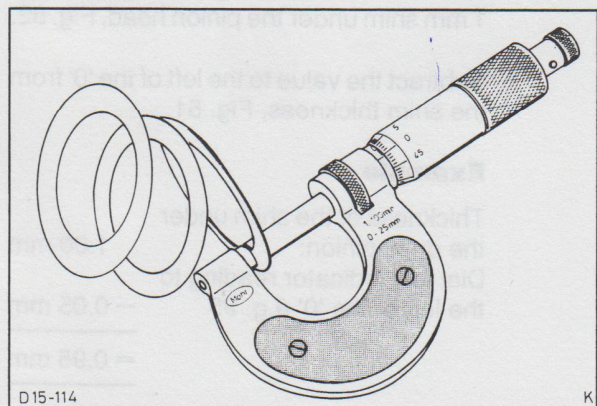

Fig. 54. Measure new shims with micrometer.
27. Using a micrometer, select a new shim of the required thickness established in sub-operations 23 and 24 (see Parts Microfilm for shim part numbers), Fig. 54.